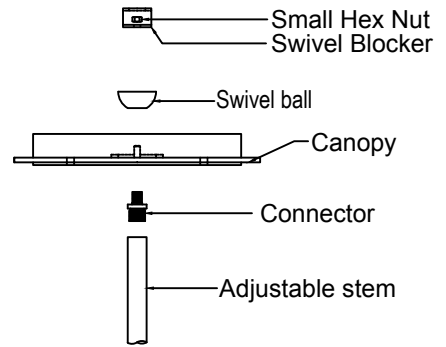

FIGURE-02
- Then attach the SAFETY CABLE to the building or structure or brace. (See figure-02 and figure-03)